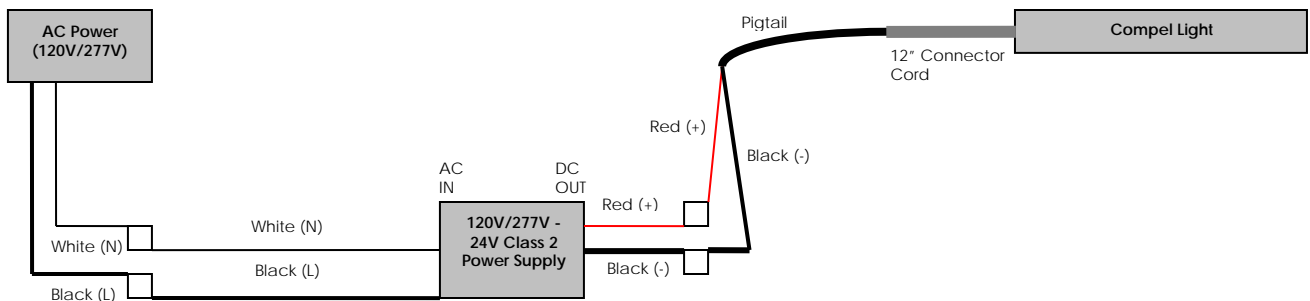

Figure 1 – Wiring Diagram
6. If wiring multiple lights use the 2" add-on to connect two lights together. If using only one light simply plug a pigtail (ordered separately) into the 12" connector cord and then wire to the power supply as shown in Figure 1.